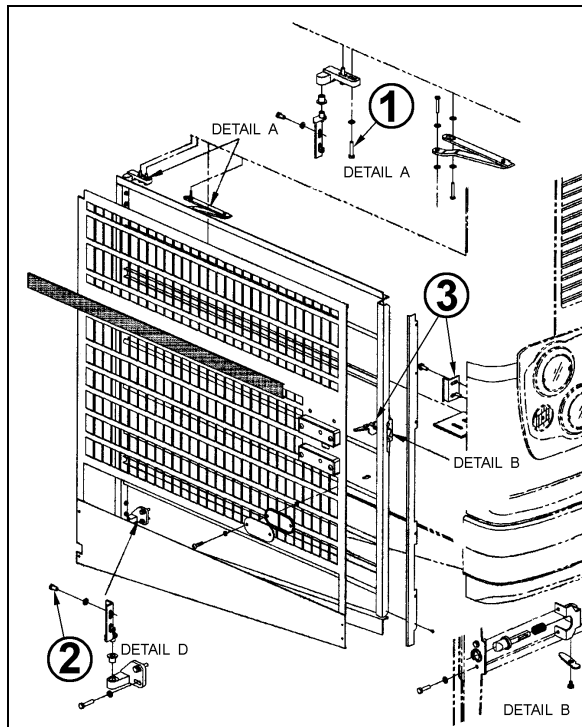

FIGURE 72: RADIATOR DOOR
6. Loosen the bolts, (1, Fig. 72) holding the hinge to the vehicle structure to shift the door "IN or OUT" and "UP or DOWN".
7. Loosening the bolts (2, Fig. 72) allows the door to be shifted "LEFT or RIGHT" and "UP or DOWN".
To adjust the latch mechanism (3, Fig. 72) and the striker pin: